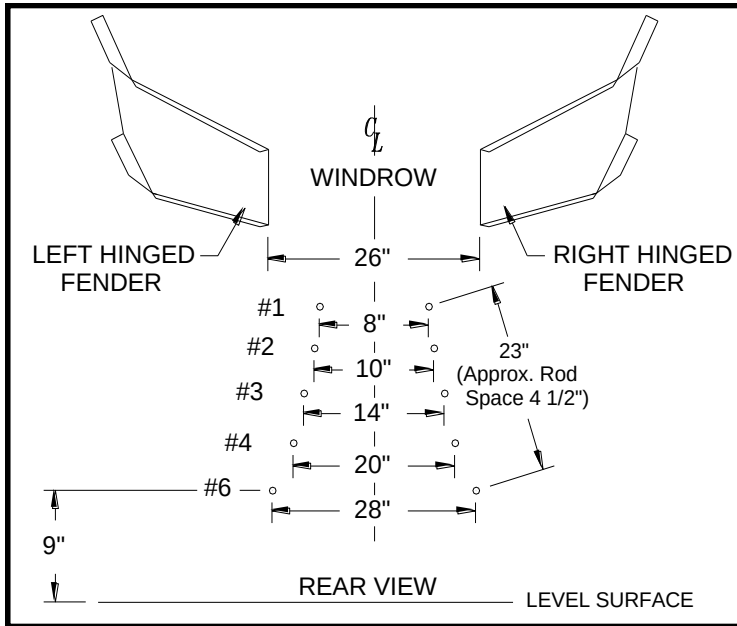

Figure 15A (For 4, 6 & 8R-31" Rows Only)
5. Check vine guide rod pattern (refer to Figure 15A, 15B, 15C, or 15D)